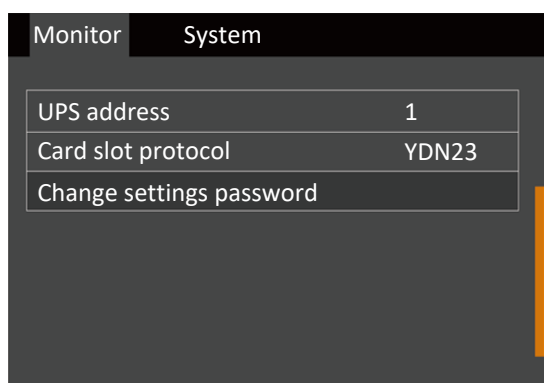

Figure 5-23 Changing Settings Password
2. Press the  key, then press the  key to select 'Change settings password', see Figure 5-23.